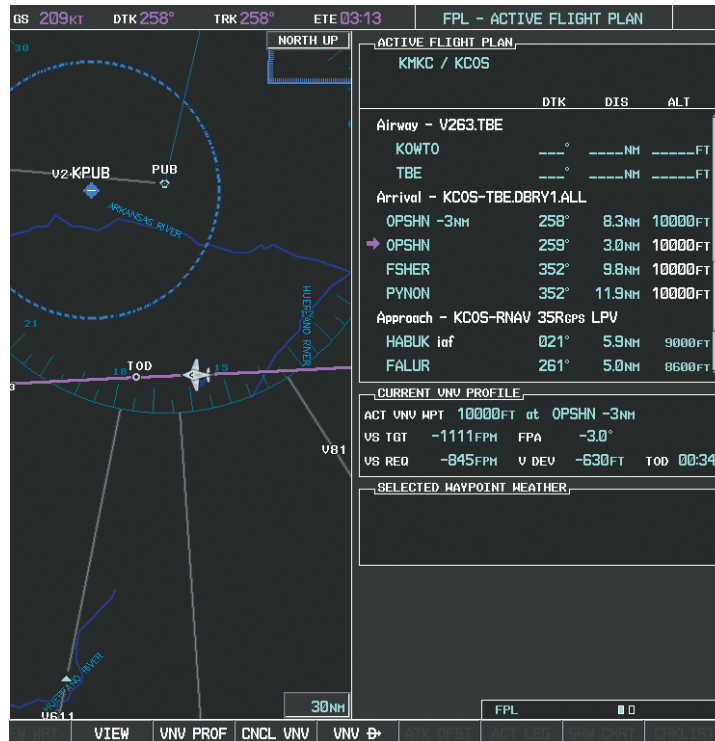
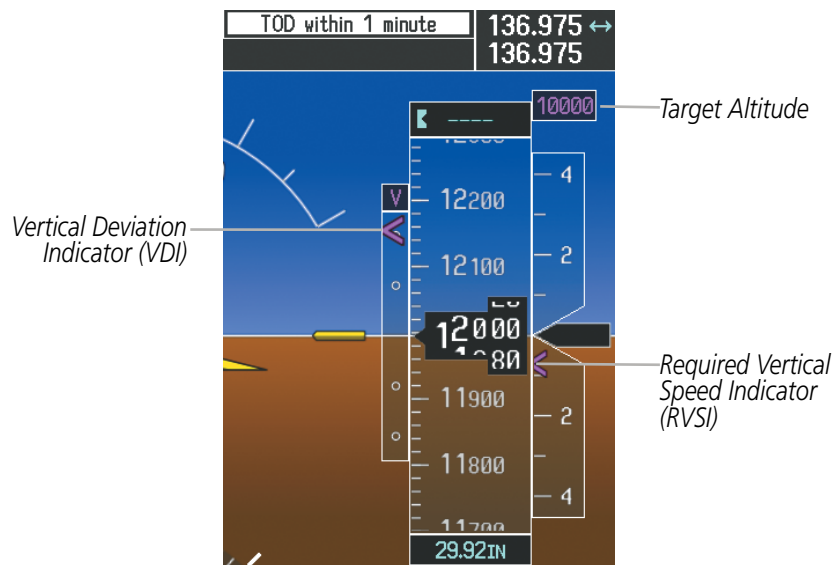

Figure 5-132 Approaching Top of Descent (TOD)
Figure 5-133 VDI & RVSI Upon Reaching Top of Descent (TOD)
- 15) As seen in Figure 5-132, the aircraft is approaching TOD. Note the target vertical speed required to reach the selected altitude. The Vertical Deviation Indicator (VDI) and the Required Vertical Speed Indicator (RVSI) are now displayed on the PFD as shown in Figure 5-133. When the aircraft is within one minute of the TOD, it is annunciated as shown in Figure 5-133, and an aural alert 'Vertical track' will be heard.